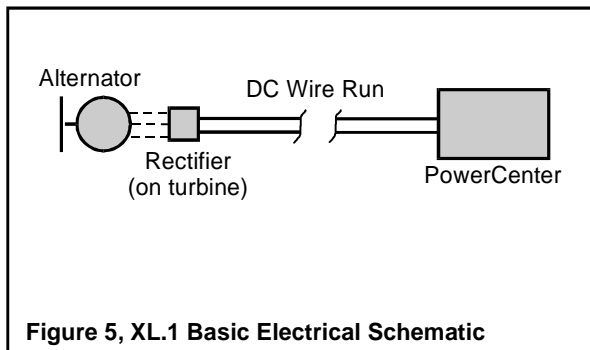

Figure 5, XL.1 Basic Electrical Schematic
The basic electrical schematic for the BWC XL.1 is shown in Figure 5. The XL.1’s alternator produces three-phase alternating current (AC) that varies in voltage and frequency with the rotor speed. The AC power is rectified to direct current (DC) power by a rectifier module inside the nacelle. Thus, the wire run from the wind turbine to the PowerCenter is DC.